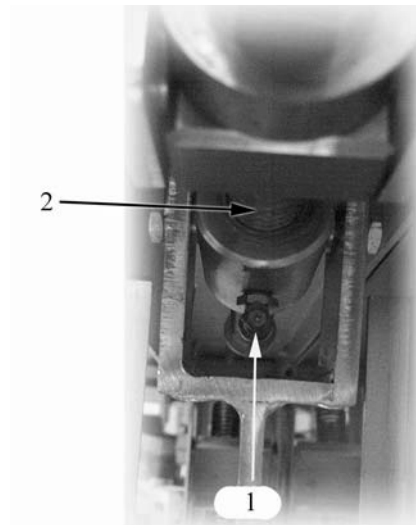

Fig. 28
- grease the point indicated in item 1 in Fig. 28.
- apply a light coating of grease on the internal thread in item 2 in Fig. 28.